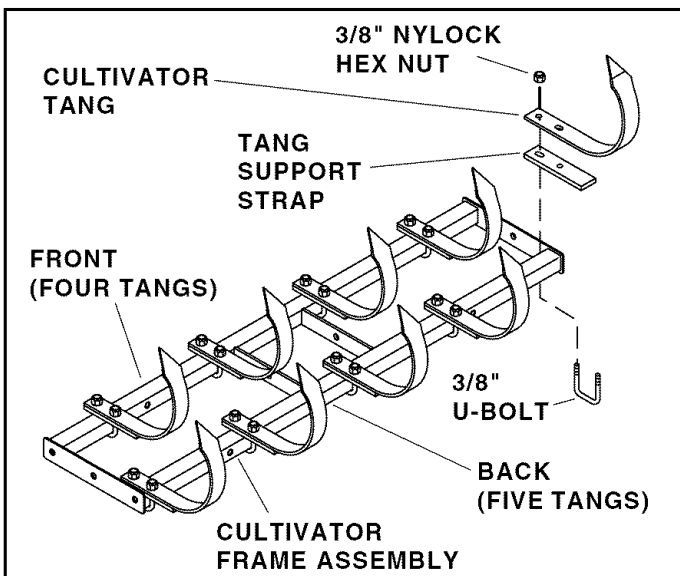

FIGURE 1
1. Attach nine cultivator tangs and tang support straps to the cultivator frame assembly using one 3/8" U-bolt and two 3/8" Nylock hex nuts for each tang. Be sure to install a tang support strap between each tang and the frame assembly. See figure 1.
For even spacing, install five tangs on the rear of the frame and four tangs on the front of the frame. For the rear tangs, put a tang at each end of the frame assembly and a tang in the center. Then put the other two rear tangs midway between the middle and end tangs as shown in figure 1. When attaching the front tangs, center them between the rear tangs as shown. Once the tangs are positioned, **tighten** all hex nuts.